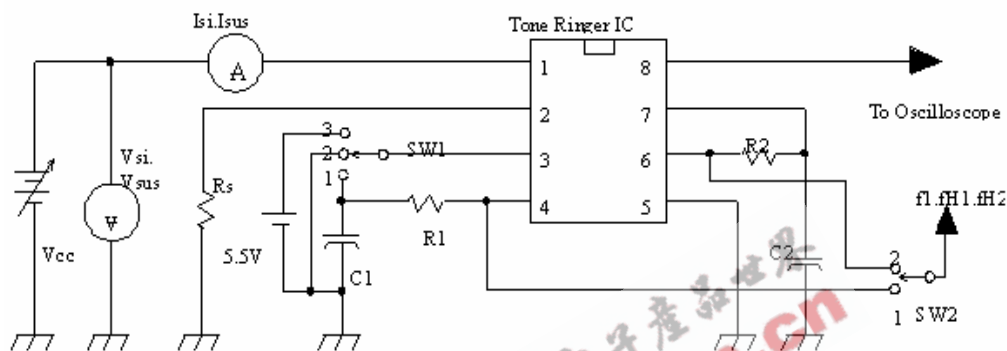

Figure 3. Test Circuit (2)
3. Ringling start voltage is the value of AC supply voltage required to start the tone ringer ringing in FIG.3
The supply current drawn prior to triggering varies inversely with RSL, decreasing for increasing value of resistance. Thus, increasing the value of RSL will decrease the amount of AC ringing current required to trigger the device. As such, longer subscriber loops are possible since less voltage is dropped per unit length of loop wire due to the lower current level. RSL can also be used to compensated for smaller AC couplin capacitors (C5 on Fig 3) (higher impedance) to the line which can be used to alter the ringer equivalence number of a tone ringer circuit.